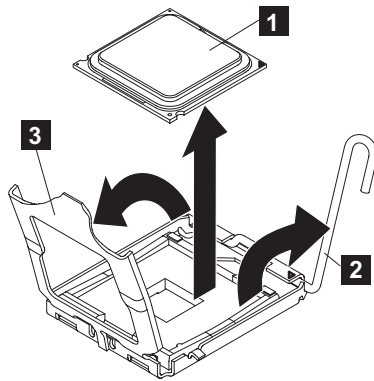

Figure 251. Opening the SAN Volume Controller 2145-CF8 microprocessor-bracket frame
1. To open the socket in preparation for inserting the microprocessor, press down and out on the release lever (**2** in Figure 251 on page 268 as you did to remove the microprocessor, and lift up the microprocessor-release lever until it stops in the fully open position.